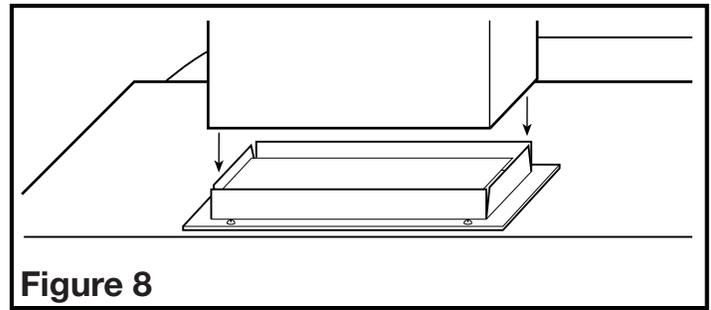

Figure 8
1. Connect the ducting to the hood's duct collar. Secure in place using tape to seal all joints (Figure 8).